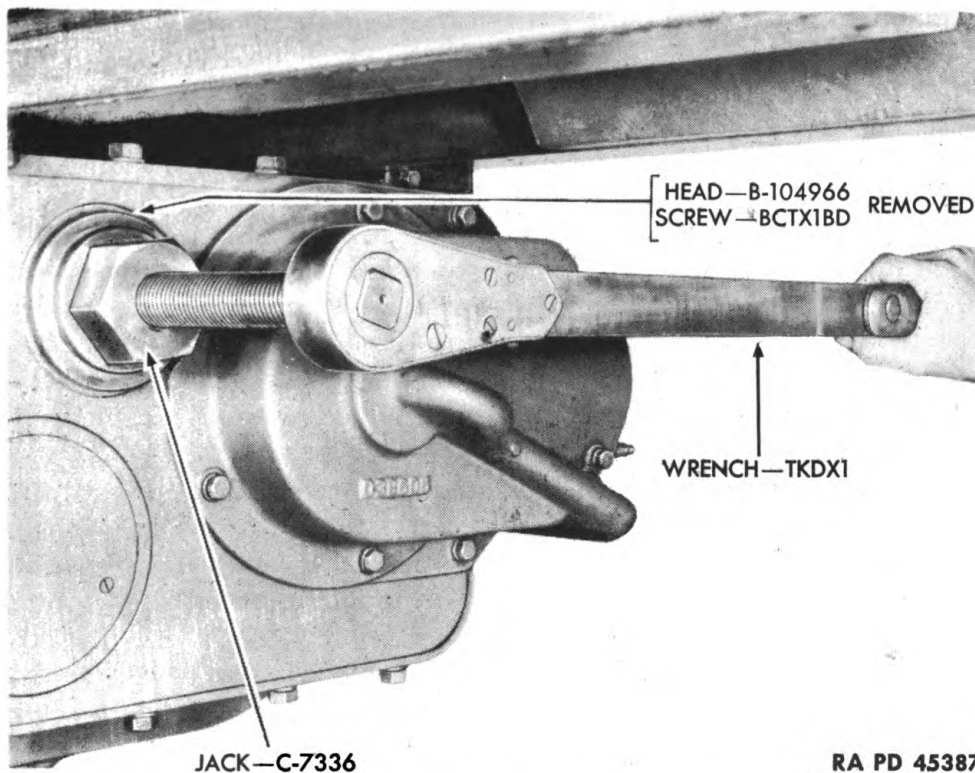

Figure 10—Using Screw Jack in Manometer Test
(9) Install the recoil piston screw jack C7336 (fig. 10). Using wrench TKDX1 to turn the jack, move the counterrecoil piston rod approximately 4 inches (10.2 cm) to the rear, permitting the oil to escape through the oil release and adapter. This will cause the gun (or howitzer) barrel to move to the rear, as the barrel is still attached to the recoil mechanism.